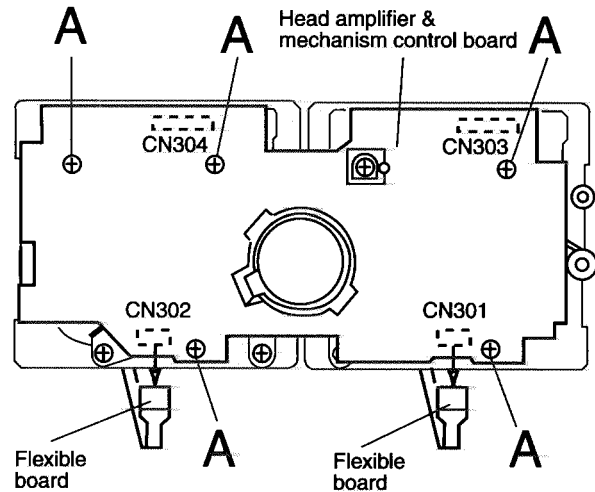

Fig.4
■ Removing the head Amp. and Mechanism Control P.C. Board (See Fig. 4)